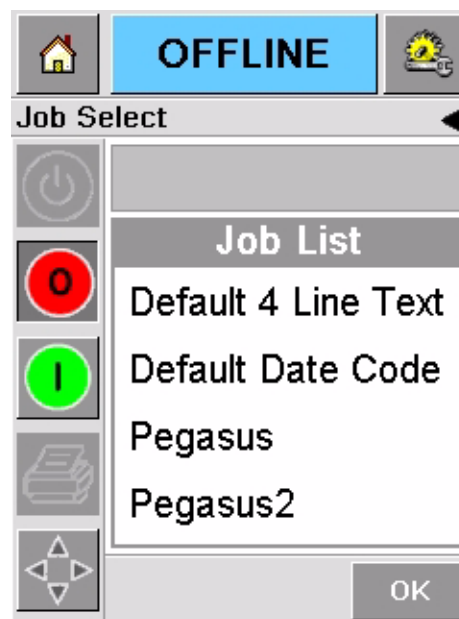

Figure 4-4: Job List
- 1 Touch the Job button on the home page. A list of available jobs is displayed (Figure 4-4).